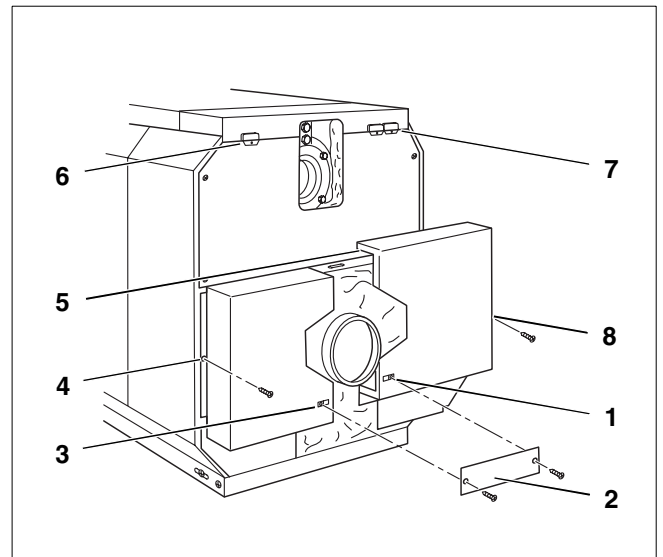

Fig. 55 Assembly – Fitting lower rear panels
- Clip captive nuts into the left- and right-hand side panels and the lower rear panels (Fig. 55, **ref. 1, 3, 4 and 8**).
- Hook the left- and right-hand lower rear panels into slots in the folded edges of the upper rear panel and side panels (Fig. 55, **ref. 5**).
- Screw the connecting plate (Fig. 55, **ref. 2**) to the lower rear panels with self-tapping screws at a point below the flue connection.
- Fasten plastic cable lead-throughs to either the right or the left of the upper rear panel (Fig. 55, **ref. 5 and 6**).